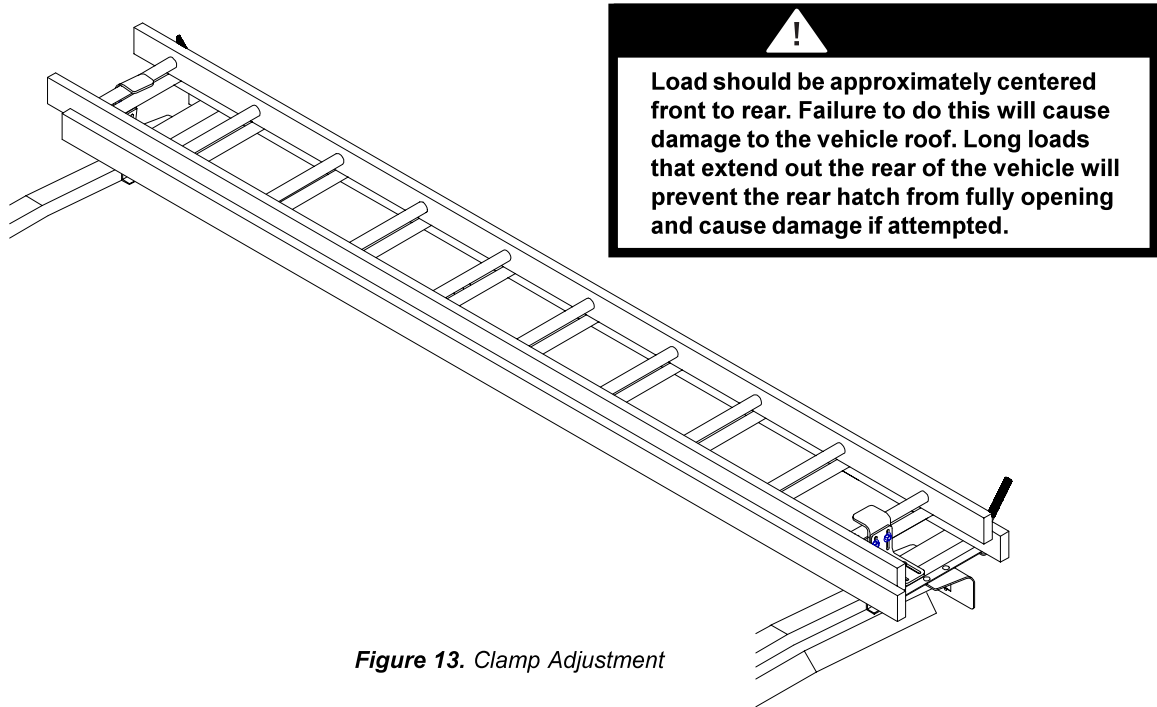

Figure 13. Clamp Adjustment
STEP 6. Loosely fasten the Top Adj. Clamp to the Front and Rear Assemblies. To adjust Clamps, place the ladder on the rack (Figure 13.), and adjust the clamps forward or back / up or down to capture the nearest ladder rung. Tighten the bolts.